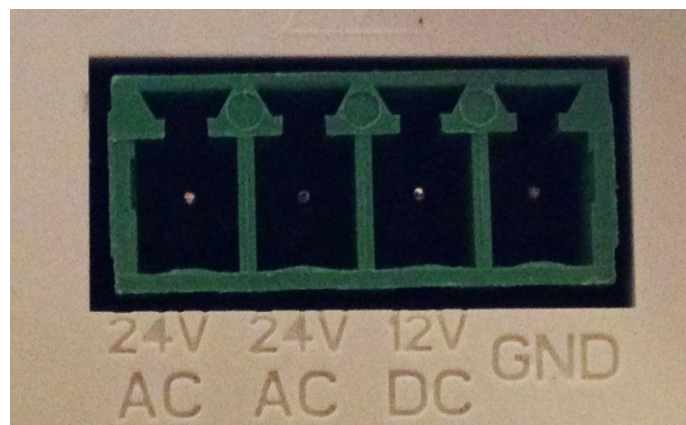

Figure 17: IP Elite Pin-Out (24V AC, 24V AC, 12V DC, GND)
- d. AC/DC Power for IP Elite: Connect wires to power block according the pin-out shown in Figure 17: